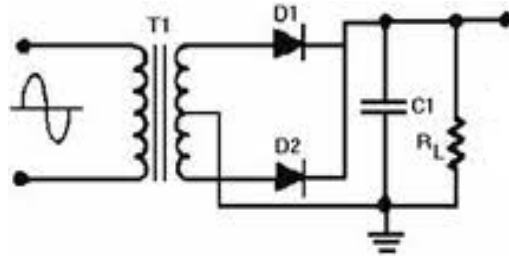

Fig .4
7. Make connections as shown in the Fig. 4 to obtain Thevenin's equivalent circuit and adjust V_{OC} and R_{TH} as obtained in steps 5 and 6.